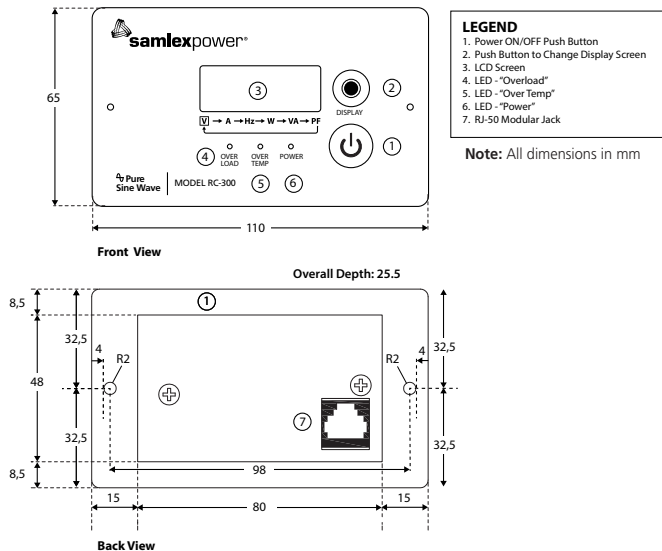

Fig. 1 Remote Control RC-300 - Layout and Dimensional Drawing
- 3.1 Fig. 1 (page 4) shows the layout of controls and indications and dimensional drawing.
- 4.1 Please refer to Fig. 1. The Remote Control can be flush mounted on a wall or a panel by making a suitable cut-out to accommodate the projection in the back.
- 5.1 Switch ON the inverter using the local ON/OFF Switch on the inverter or using external ON/OFF control provided on the inverter. Once the inverter turns ON, the operational status of the inverter will be displayed through the LCD screen (3, Fig 1) and LEDs (4, 5, 6; Fig 1).
- 5.3 The output of the inverter can be switched ON/OFF using the ON/OFF Push Button (1, Fig 1).